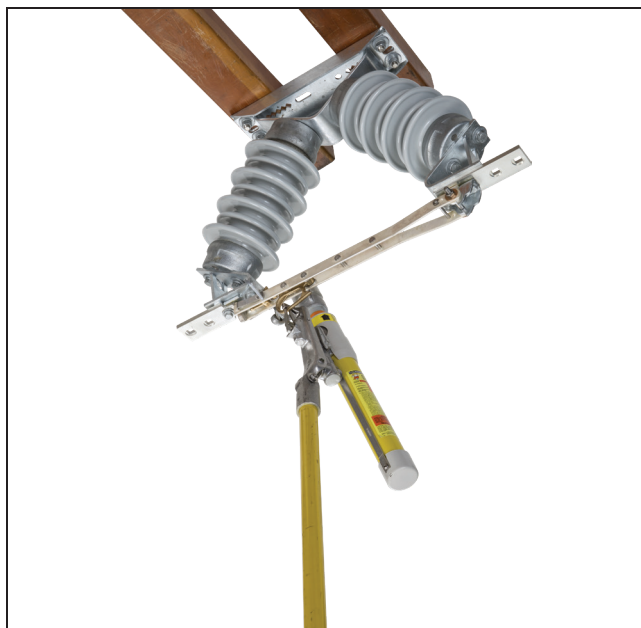

Figure 4. A Loadbuster tool connected to a Loadbuster Disconnect Switch
- STEP 1.** Reach the Loadbuster tool across in front of the disconnect switch and hook the anchor, located at the top of Loadbuster tool, over the attachment hook on the far side of the disconnect. See Figure 4.